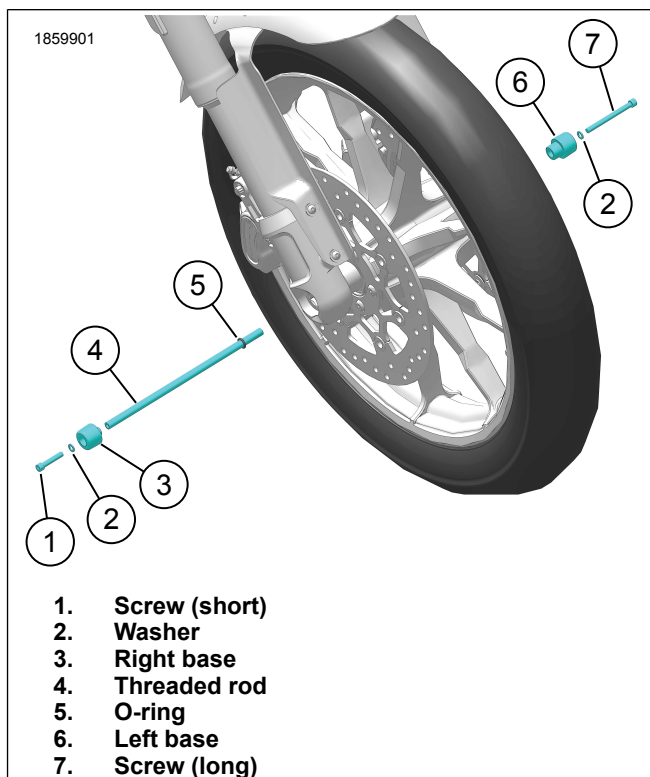

Figure 2. FXLRS Wheel Shown (Typical)
1. See Figure 2. Apply threadlocker to screw threads (1, 7) prior to assembly.